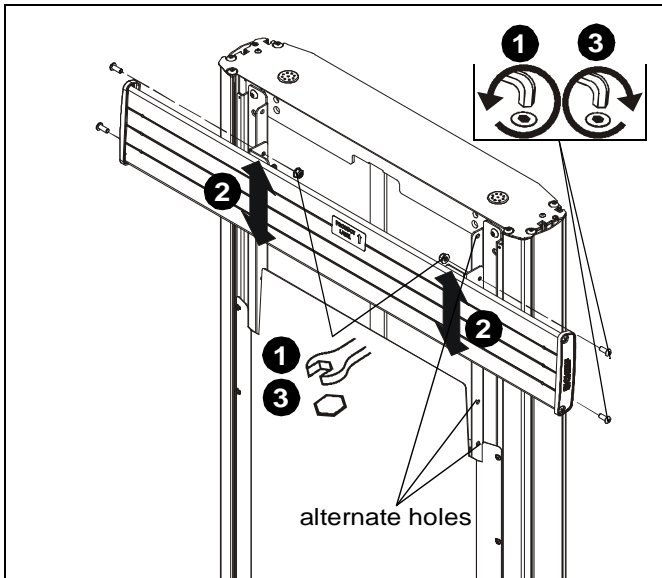

Figure 17
1. Remove four screws and nuts holding head assembly to vertical brackets on mount. (See Figure 17)
2. Adjust height of head assembly up or down lining up the holes on the brackets as desired. (See Figure 17)
3. Reinstall four screws and nuts removed in Step 1 to secure head assembly to vertical brackets on mount. (See Figure 17)